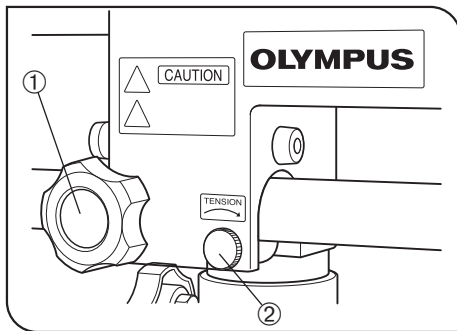

Fig. 16
1. To move the horizontal arm horizontally, loosen the horizontal clamping knob ①.
The tension of the horizontal movement can be adjusted with the horizontal movement tension adjustment knob ②. Rotating the knob in the direction of the arrow increases the tension and rotating in the opposite direction decreases it. (Fig.16)